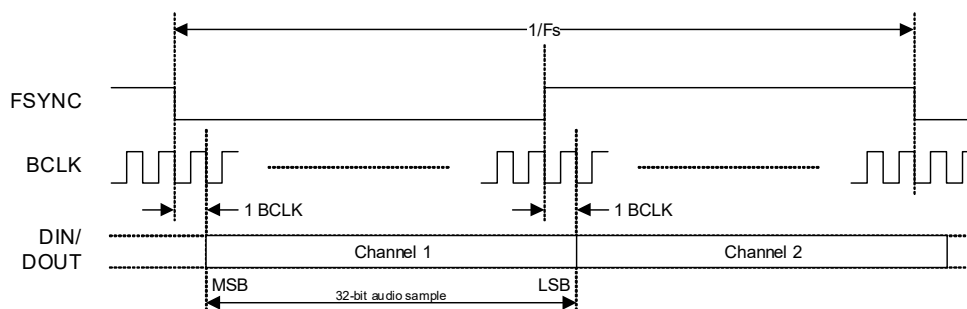
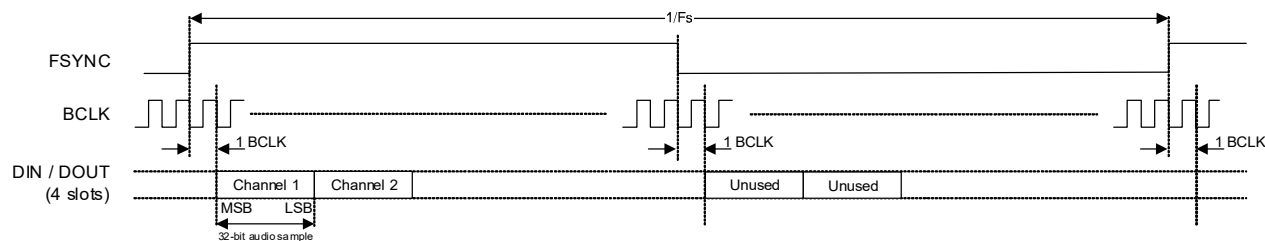

Figure 4-20. I²S Data Format
Figure 4-23. TDM Data Format, 4-Slot Example (FSYNC = Square Wave)
The ASP data format in I²S, Left-Justified, and TDM interface modes as illustrated in Fig. 4-20 through Fig. 4-23. Refer to Table 4-17 for the applicable definition.
- If I²S data format is selected, the ASP supports audio channels 1–2 as shown in Fig. 4-20. The minimum BCLK rate is 64×Fs (where Fs is the sample rate). In ASP Primary Mode, the minimum BCLK rate of 64×Fs is not supported for sample rates of 16 kHz or 32 kHz. A higher BCLK frequency can be used, resulting in unused BCLK cycles between the LSB of one sample and the MSB of the next.
An example of the 4-slot TDM format in ASP Primary Mode with the FSYNC signal configured as a square wave is shown in Fig. 4-23. In this example, audio channels 0 and 1 occupy TDM slots 0 and 1 in the high (Logic 1) phase of the FSYNC signal, TDM slot 0 and 1 in the low (Logic 0) phase of the FSYNC signal are unused.